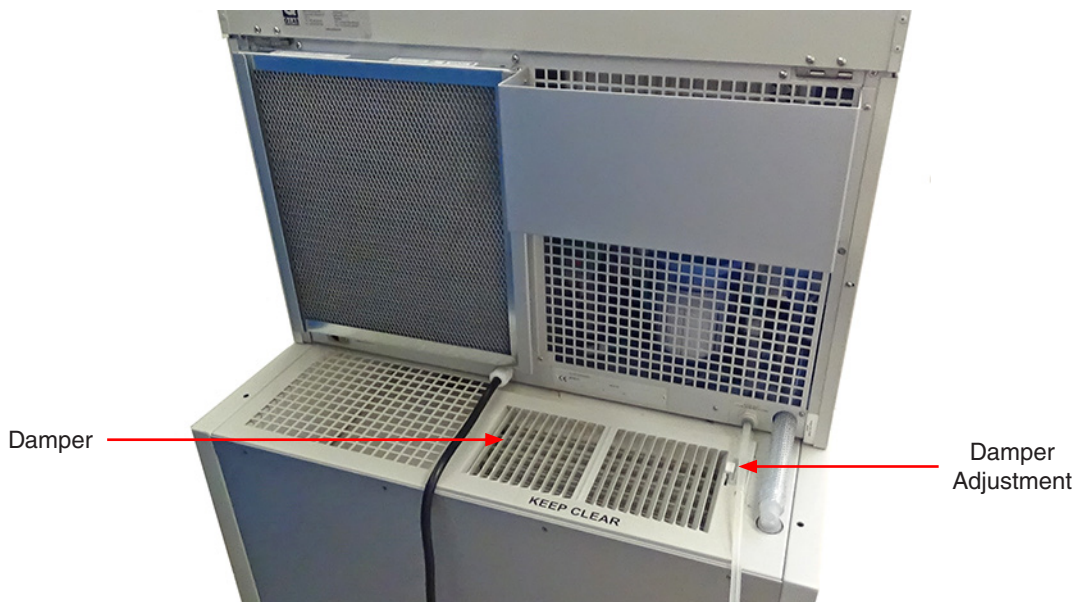

Figure 10.3d: Rear view of Xe-1-BCE or Xe-1-SCE showing damper.
- The Xe-1-BCE and Xe-1-SCE chiller includes a manually-operated damper which is opened in a warm or normal temperature lab to allow maximum cooling efficiency, but is partially closed in a cool (20 °C / 68 °F or less) room to recirculate some of the exhausted heat (Figure 10.3d).